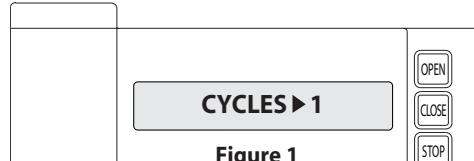

Figure 1
- 2) Press SCROLL  until display reads "CYCLES>1,2,3 etc." where the number is the number of open/close cycles the operator has performed. **Figure 1**.